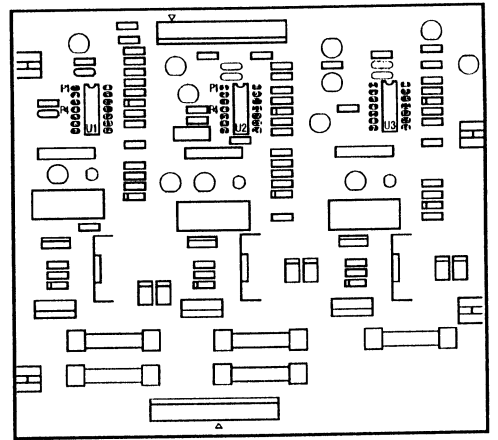

Fig. 1
- B) Cut the trace (bottom side) that connects R23 & R25. (See Fig. 1)
- C) Add jumper (bottom side) from cut side of R23 Ground. (See Fig. 1)
- A) Right Flipper: Take the 1MFD 50V Capacitors and attach 1 cap. to CN1, {+} (positive) side to Pin 2 and {-} (negative) side to Pin 1. (See Fig. 1)
- B) Left Flipper: Attach the second cap. to CN1, {+} side to Pin 9 and {-} side to Pin 11. (See Fig. 1).